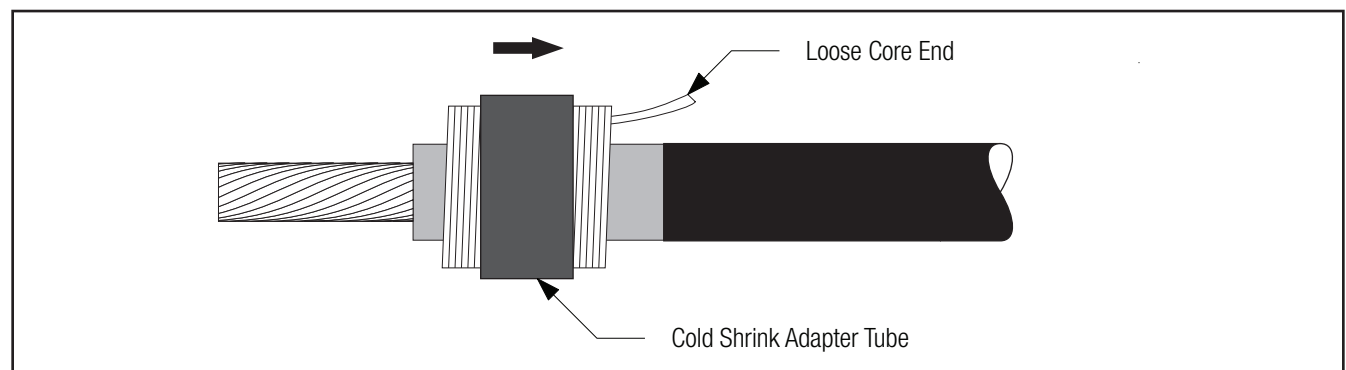

Figure 15
- 4.4 For 500 kcmil copper connectors, or connectors with an O.D. between 0.80–1.08" (20,3–27,4 mm): Slide the cold shrink adapter tube onto the insulation with the loose core ribbon end going on first, away from the cable end (Figure 15).**